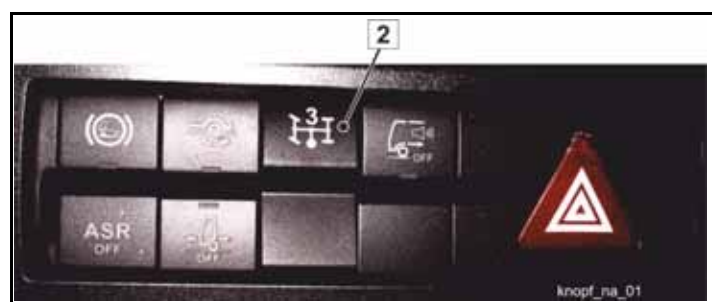

Fig. 108 Cab switch
In the cab of your vehicle, there is a switch with a symbol like in position (2) (**Fig. 108**).